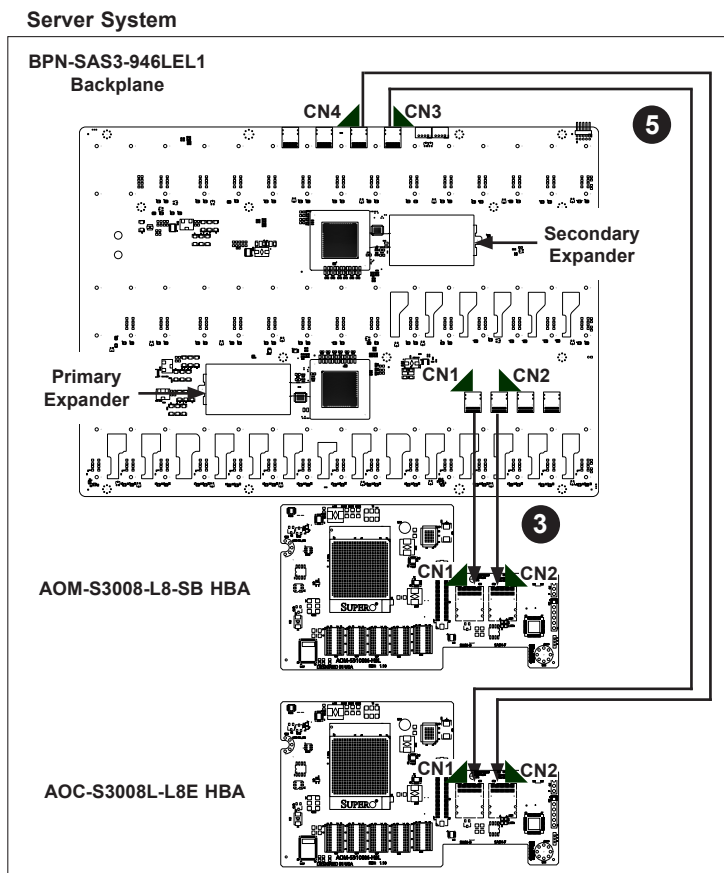

Figure C-6. Backplane Cascading Configuration
3. Plug the cables into connectors CN1 and CN2, then route them to connectors CN1 and CN2 on the underside of the AOM-S3008-L8-SB HBA located within the same server as the backplane, as illustrated in Figure C-6.
5. Connect the cables to CN3 and CN4, then route them to CN1 and CN2 on the underside of the AOC-S3008L-L8E HBA in the same server, as illustrated in Figure C-6.